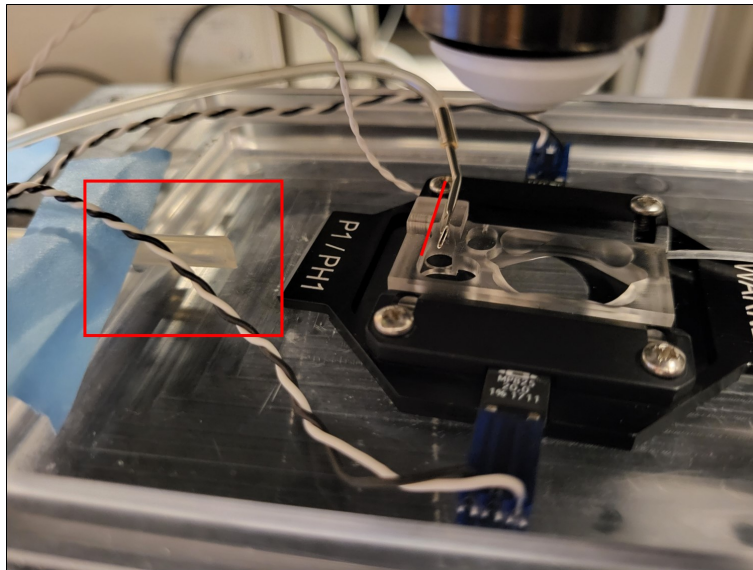

Figure 7: Vacuum tubing at the perfusion chamber.
4. The larger hose goes into the slot opposite the inline heater. See Figure: 7 **red square**.